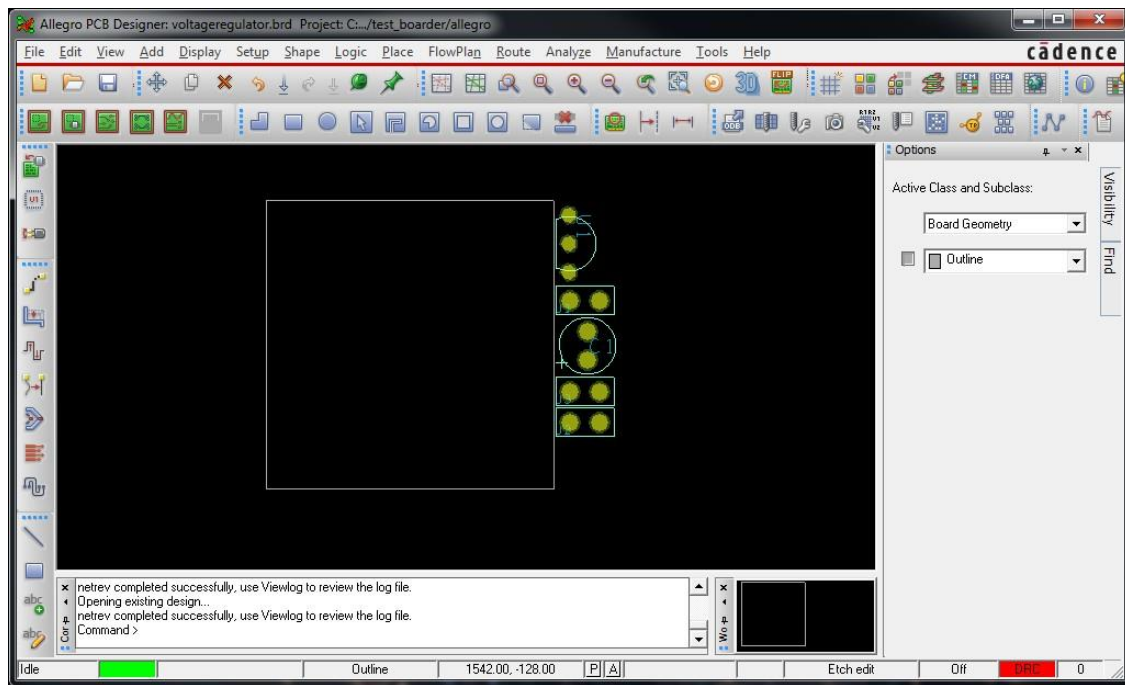

Figure 8. Design window after Color adjustments with Unrats all selected.
- Now your design should look like Figure 8 when the “rats nest” has been turned off.